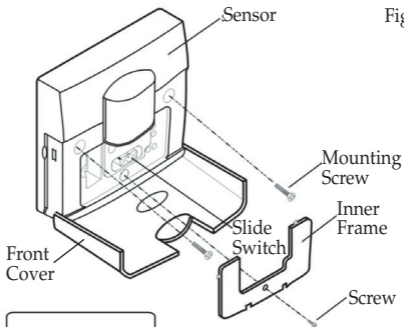

Fig. 3
2. Open the front cover, to reveal the fixing screws (See Fig.3)